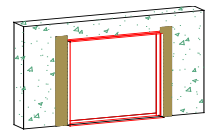

Figure 3
17. At each jamb, embed the flashing paper into the sealant on the mounting flange and fasten into place. The flashing paper should be cut sufficiently long enough to extend at least 3 in. past the weep-screed or diado flashing and at last 6 inches above the head of the door. (See fig. 3)